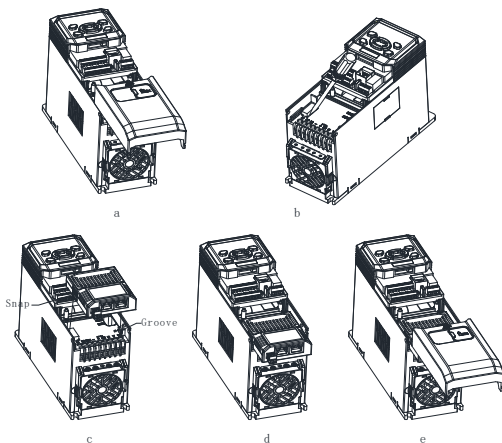

Fig. 1-1 ECAT card installation steps
- (1) When the drive is powered off, press the granulated part on the middle-upper of the lower cover, slide it down firmly to take down the cover, as shown in Fig. 1-1 a.
- (2) Use a straight screwdriver to pry open the dustproof cap, as shown in Fig. 1-1 b.
- (3) Install the ECAT option: hold the expansion box (a bus card inside) upwards (indicators up), then align the expansion box with the electrical bus interface of the installation position 2, and press down horizontally to buckle the spring snap of the expansion box into the groove at the lower part of the drive, as shown in Fig. 1-1 c and d.
- (4) The bus card is successfully installed, as shown in Fig. 1-1 e.